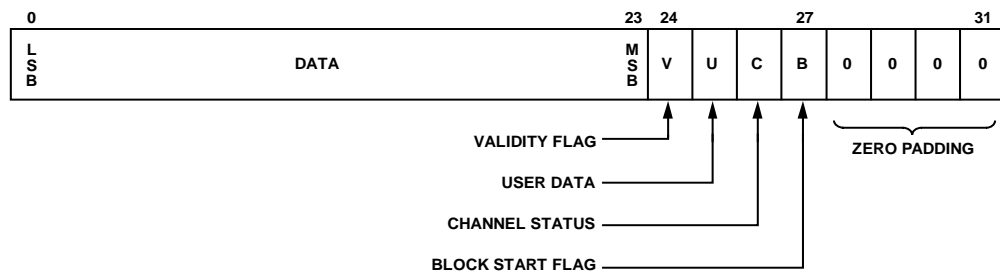
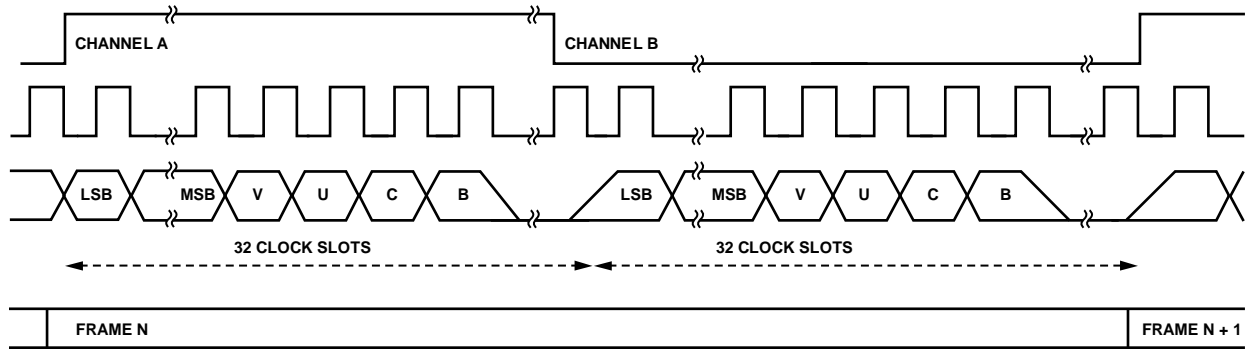

Figure 21. AES3 Subframe Timing Diagram
Figure 22. AES3 Stream Timing Diagram
- An AES3 stream if the I2SOUTMODE[1:0] control is set to 0x3 (see Figure 21 and Figure 22). Note that AES3 is also referred to as raw SPDIF. Each AES3 stream may encapsulate stereo L-PCM audio data or multichannel non L-PCM audio data (for example, 5.1 Dolby Digital).
The ADV7613 can output HBR data as an AES3 stream on each HBR interface output pin (see Figure 21 and Figure 22). The following configuration is required to output AES3 streams: